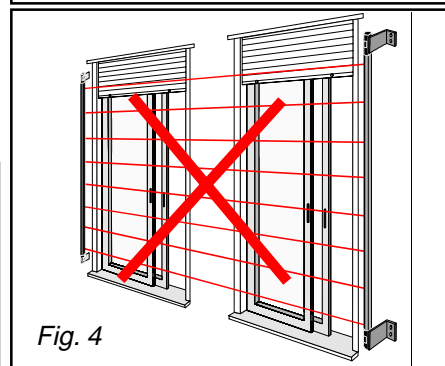

Fig. 4
- » Non montare mai le due colonne in esterno (su staffe) per la protezione contemporanea di più porte (fig. 4).
- » *Ne jamais monter les colonnes à l'extérieur (sur des supports) pour protéger plusieurs portes en même temps (fig.4)*
- » *Do not mount the columns outside (on brackets) to protect several doors contemporaneously (fig.4).*
- » *Mount the columns between the door and the shutter. Remove the plastic lids at both ends of the columns. Drill holes into the wall and fix the columns using the screws enclosed (fig. 4). Reclose the plastic lids introducing them into the groove and pressing against the column (fig. 6).*